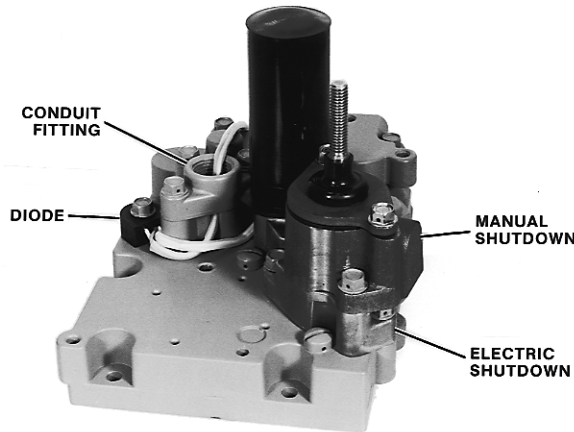

Figure 2-3. Electric Shutdown Device with Manual Shutdown
The Electric Shutdown Device can be used by itself or in conjunction with Manual or Pressure Shutdown Devices, as shown in Figures 2-3, 2-4, and 2-5.
2. Refer to Figures 2-3 (Electric Shutdown Device with Manual Shutdown), 4-1 (Parts for ETS Electric Shutdown Device), and 4-2 (Parts for ETR Electric Shutdown Device). Place gasket (5) on the governor cover. Place the Electric Shutdown Device on the cover and secure it with three screws.
3. Attach the diode (16) to the cover as shown in Figure 2-3. Thread the electrical leads from the diode up through the conduit fitting on the cover.